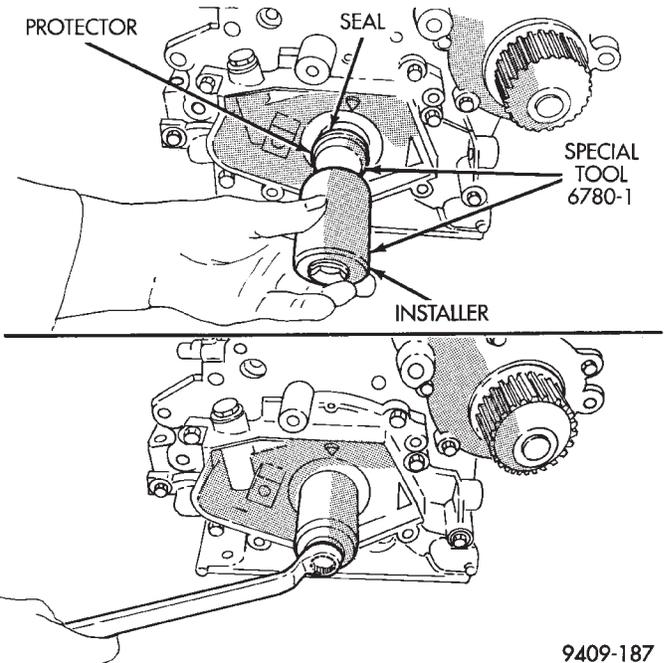

Fig. 56 Front Crankshaft Oil Seal—Installation
(1) Install new seal by using Tool 6780-1 (Fig. 56).